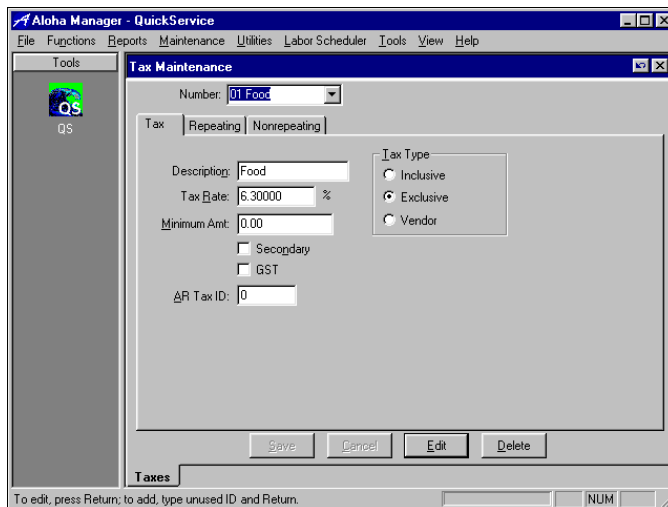

Figure 5-117 Taxes Subtab
nance > Menu > Taxes to display the Taxes function tab, as shown in Figure 5-117:
7. Once you establish the first repeating breakpoint, enter the numbers in the bottom section of the Taxes function tab (Figure 5-117), **Repeating Breakpoints**. Figure 5-117 shows the first repeating breakpoint at \$4.10 - \$4.14 (the \$0.10 and \$0.14 are the same as the first taxable amounts).
As with any tax created in Aloha, you must first set up a basic tax record in Maintenance > Menu > Taxes (Figure 5-117) before you configure it as a GST tax. Use the procedures outlined earlier in this chapter on how to set up a basic primary sales tax record. Unlike primary taxes set up in Aloha, it is not necessary to attach a GST tax to each item.